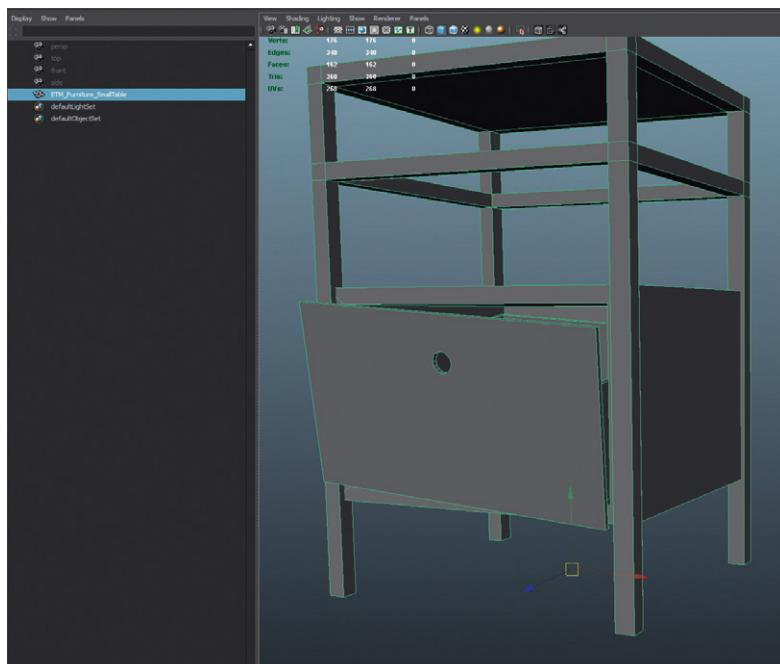

FIG 3.60 Manipulator moved to the bottom of the shape.
Step 19: Move the ETM_Furniture_SmallTable's manipulator to be at the bottom of the legs. Remember do this by holding d and v down (d to move the manipulator, v to snap to vertex) and pull the manipulator down by the green post to snap to the bottom of the legs (Fig. 3.60).